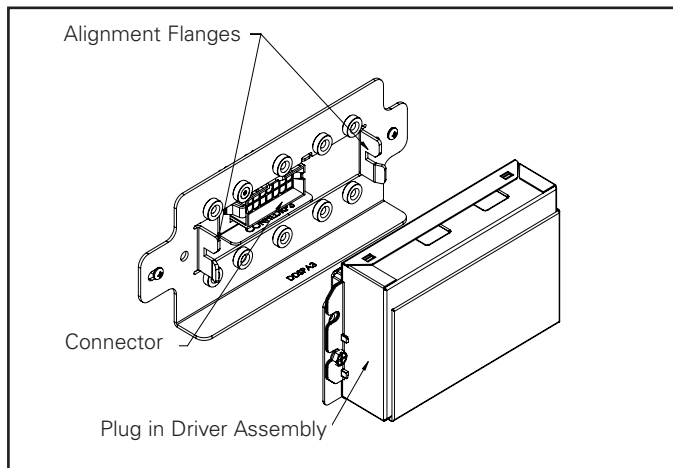

Figure 26.
8. Hold and pull the plug-in driver box assembly until it disconnects (Figure. 26).
11. Align the plug-in driver box assembly with alignment flanges & the connector on the junction box and gently push it to the end till the connector engages (Figure 26).